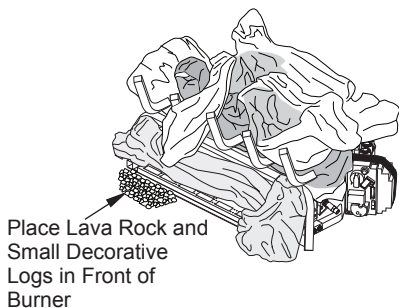

Figure 17 - Placement of Lava Rock
4. Add lava rock and small decorative logs around base of heater if desired (see Figure 17). You may place lava rock and log pieces up to flat burner. **DO NOT place rock or logs on front burner or on logs.** Placing any material on unit other than ember material on front burner may result in production of carbon monoxide or soot.